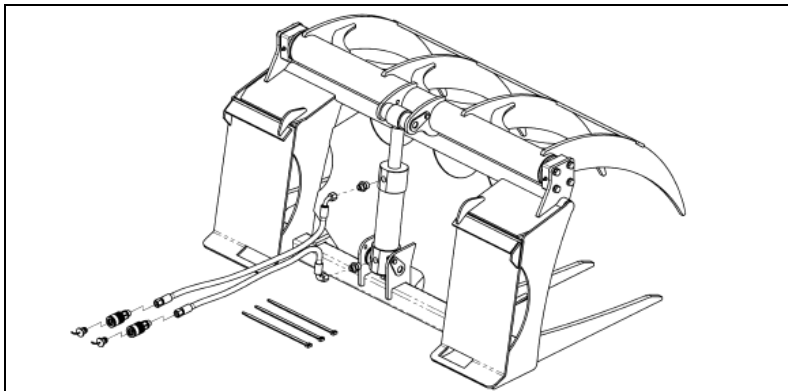

Fig. 18: Grip fork FC: Preparations before the first start-up
- Then screw on the two hydraulic hoses as shown in the figure 18 with the mounting boss and attach the coupling sleeves onto them at the other end.